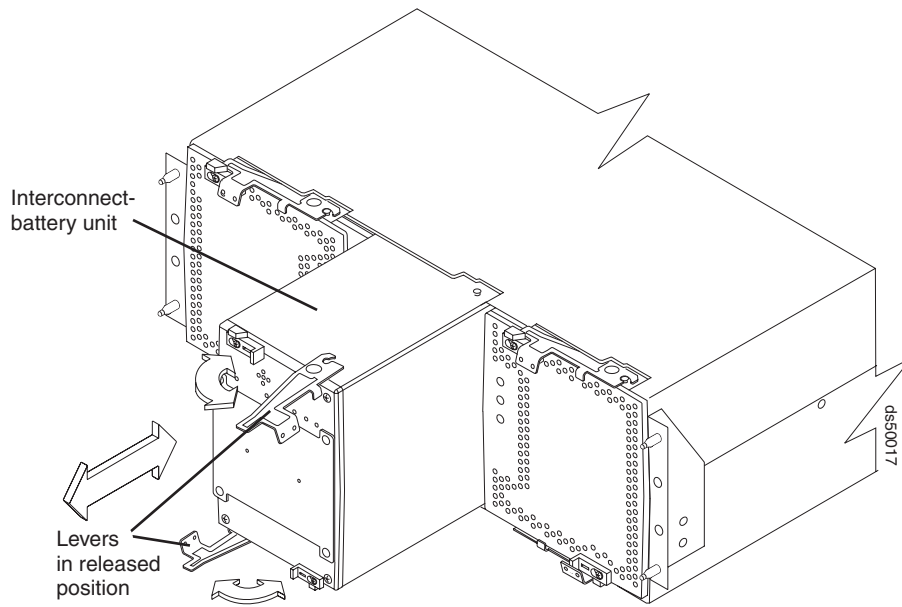

Figure 120. Removing an interconnect-battery unit from the DS5100 and DS5300
7. Unlatch both the top and bottom levers of the interconnect-battery unit and rotate both levers straight out simultaneously to remove the failed interconnect-battery unit. (Figure 120 on page 190 shows the interconnect-battery unit sliding from the storage subsystem chassis.)